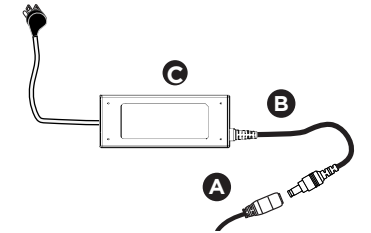

Fig. 10
10. Plug in the connector of the two **Heaters A** into the **Power Supply C** (Fig. 10).